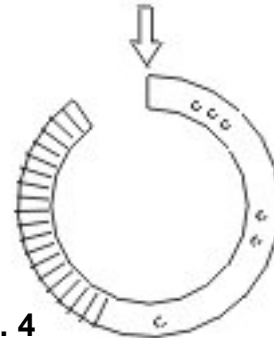

Fig. 4
- Plug the power cord (11) into the 120 volt AC electrical outlet.
- Set the temperature control dial (1) to the steam area. (Fig. 4)